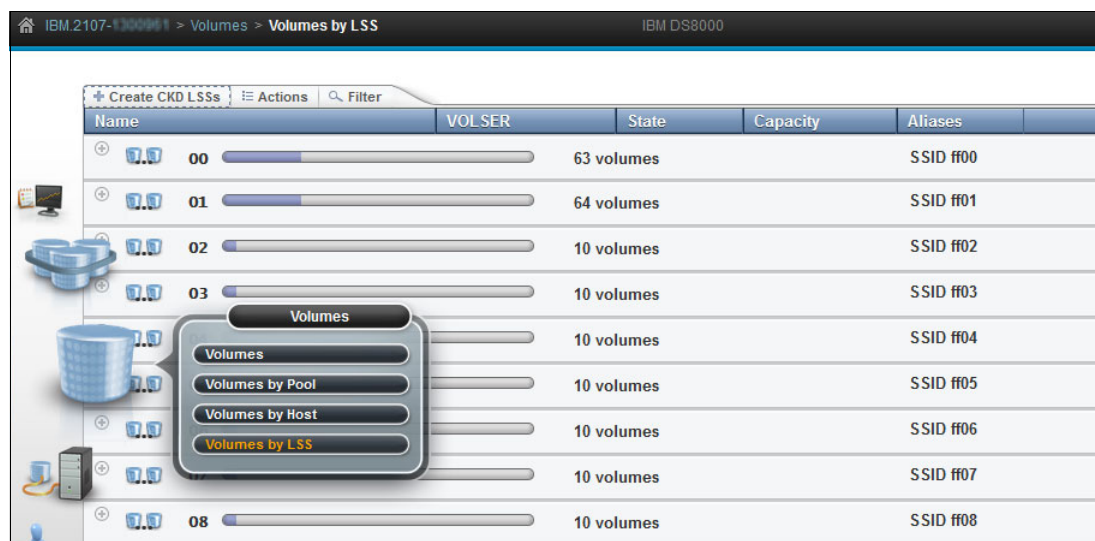

Figure 11-73 Create CKD volumes by LSSs
- Click the **Create CKD LSSs** tab from the Volumes by LSS page as shown in Figure 11-73.